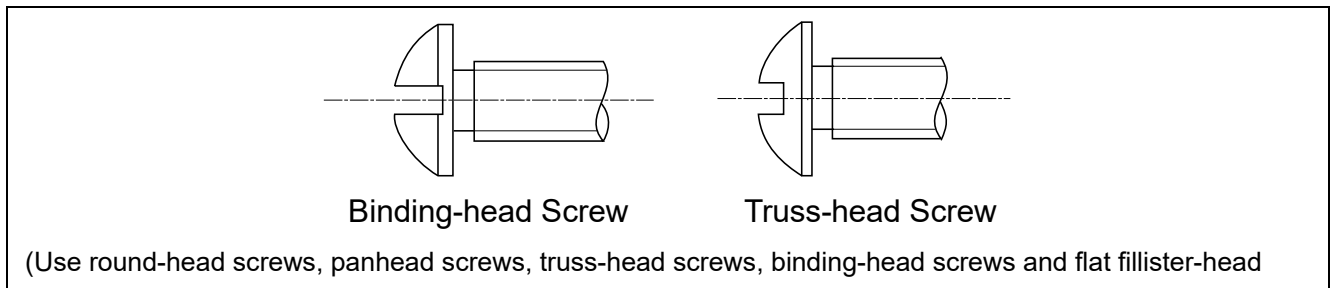

Figure 8 Recommended screws and prohibited screws
- (ii) Don't use flat head screws which cause abnormal stress in the semiconductor device (see figure 8).